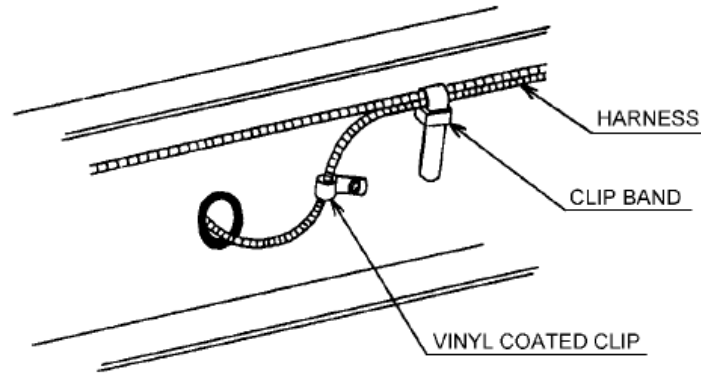

Fig. 1
2. To prevent disconnection due to vibration, fix the harness connectors and harness body securely with clip bands or vinyl coated clips as shown in Fig. 1.